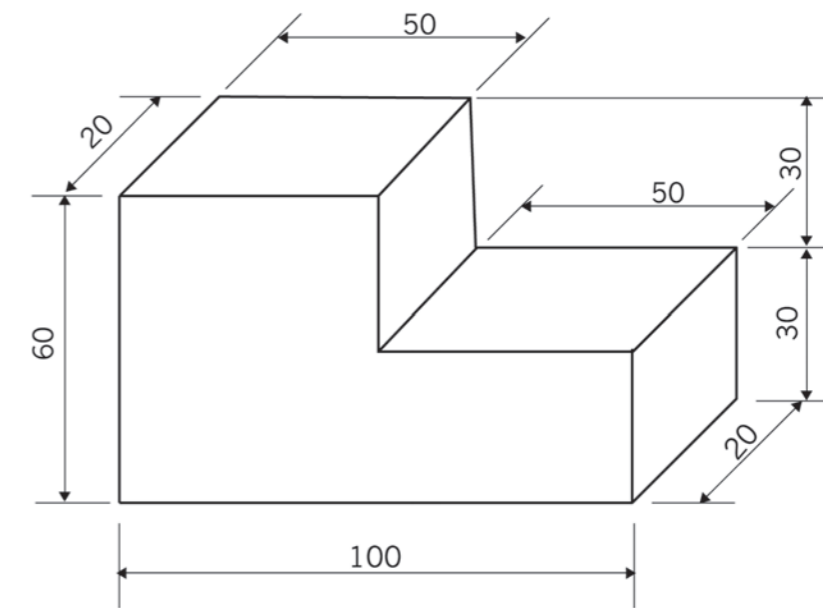

Figure 7
You will now make a double vanishing point perspective drawing of a block with a piece that is cut out, as shown in Figure 7.
3. Make and complete your own double vanishing point perspective drawing of the object in Figure 7. Draw in solid lines where necessary.